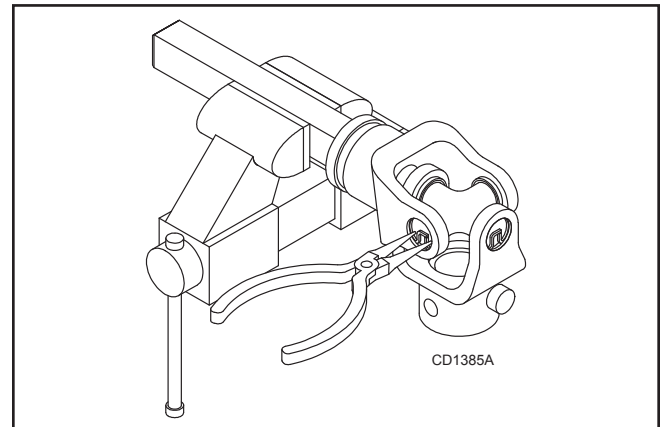

Figure 23. Remove Snap Ring
1. Remove external snap rings from yokes in four locations as shown in Figure 23.